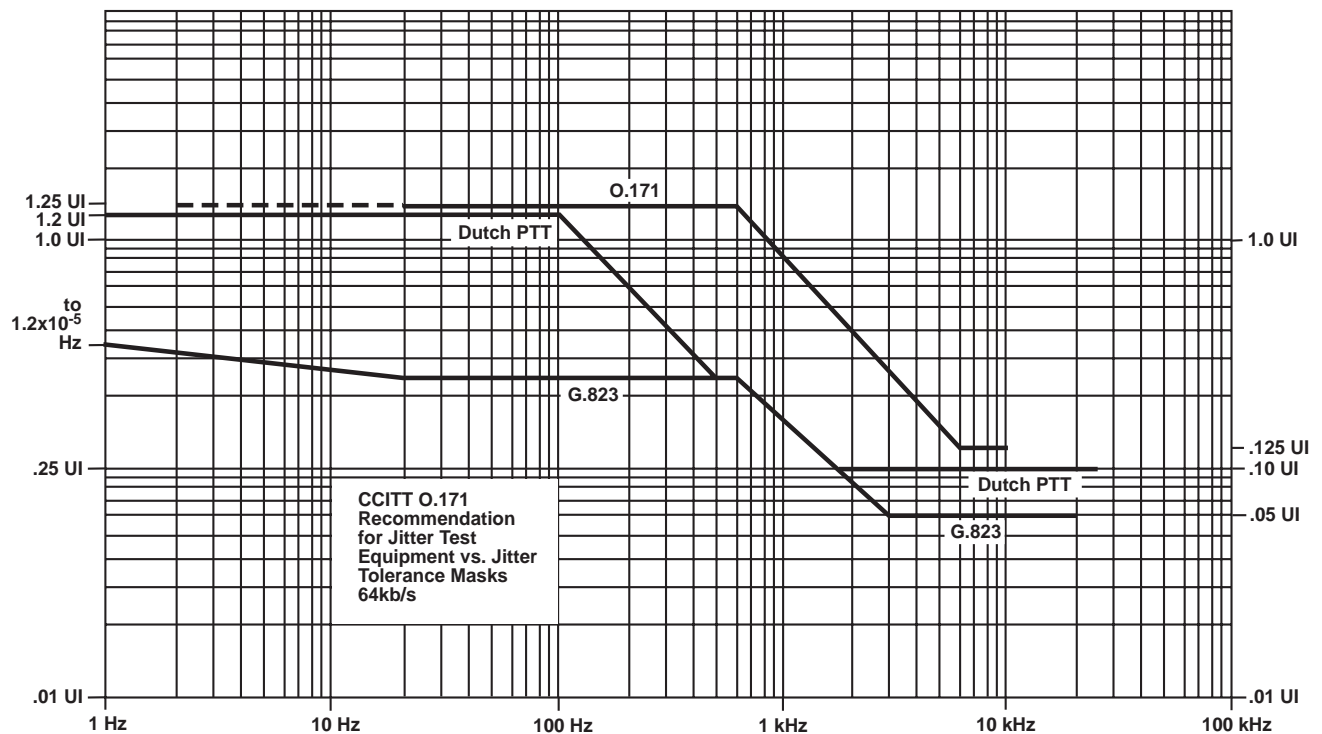

Figure B-6
- The sine wave generator may be set up to automatically sweep through a number of frequencies with jitter amplitudes defined by one of the following jitter masks: O.171, G.823, or Dutch PTT (see Figure B-6).